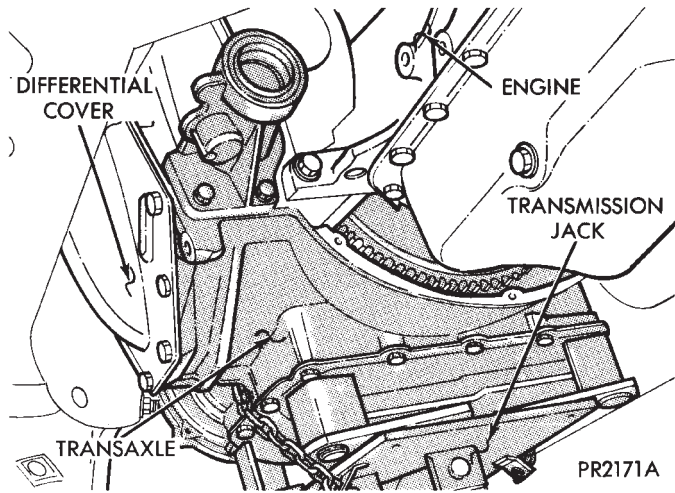

Fig. 9 Position Transmission Jack
(15) Position transmission jack securely under transaxle (Fig. 9).